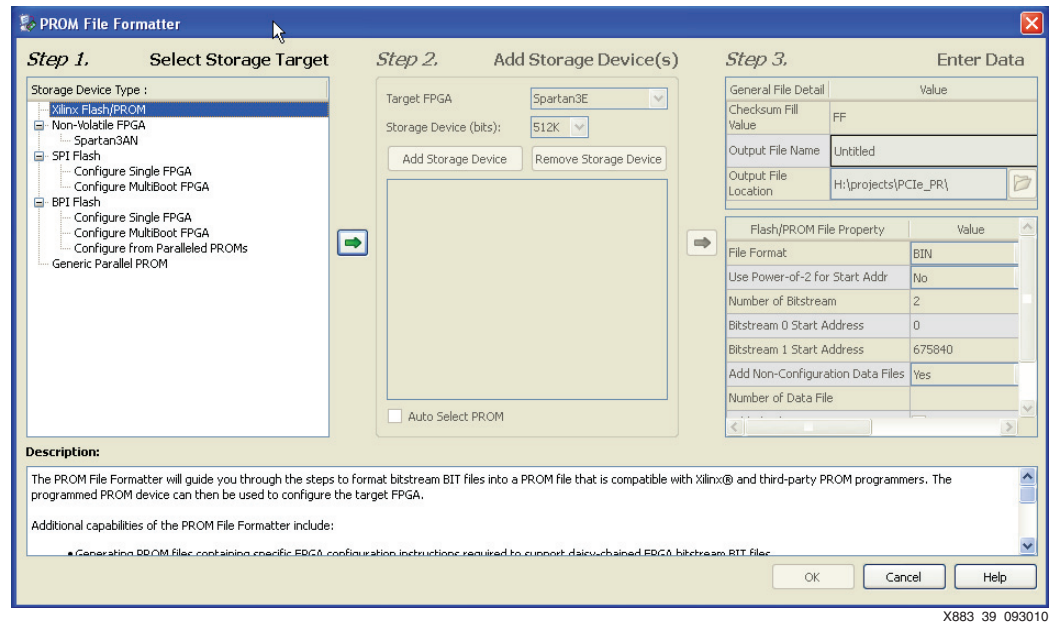

Figure 39: PROM File Formatter
8. Launch iMPACT and select the **Create PROM File** flow. The PROM File Formatter window appears, as shown in Figure 39.